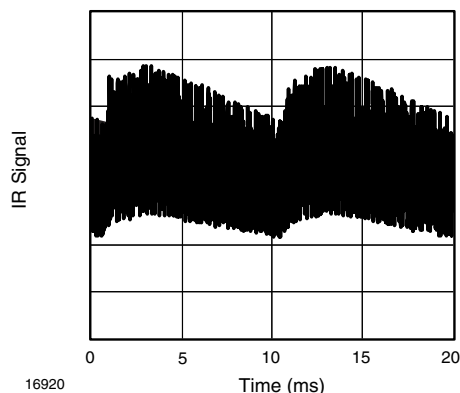

Fig. 13 - IR Signal from Fluorescent Lamp with Low Modulation
- Strongly or weakly modulated patterns from fluorescent lamps with electronic ballasts (see figure 13 or figure 14)